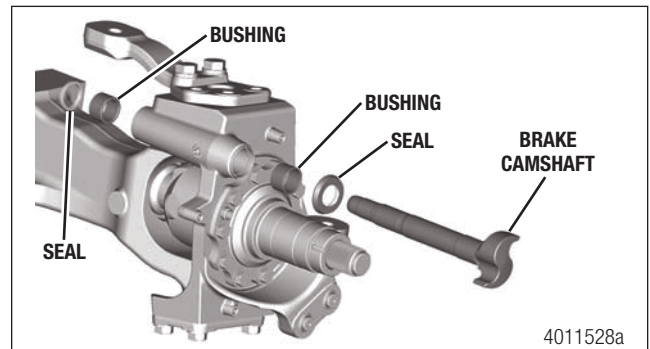

Figure 5.22
- Remove the brake camshaft seals, bushings and the brake camshaft from the steering knuckle. Figure 5.22.